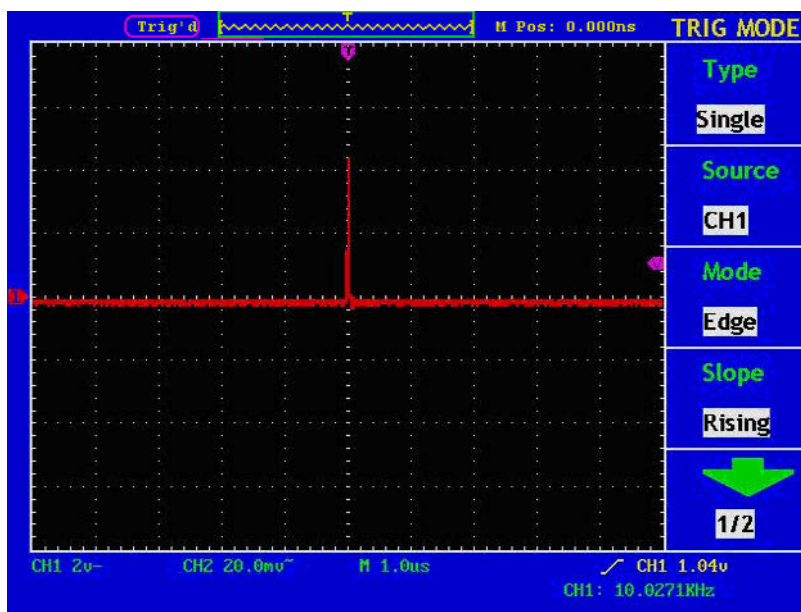

Figure 105. Capture the Single Signal
- 12 If the **Trigger State Indicator** at the top of the screen does not indicate **Ready**, push down the **RUN/STOP** button and start **Acquire**, waiting the emergence of the signal in conformity with the trigger conditions. If a signal reaches to the set trigger level, one sampling will be made and then displayed in the screen. With this function, any random occurrence can be captured easily. Taking the burst burr of larger amplitude for example, set the trigger level to the value just greater than the normal signal level, and then presses the **RUN/STOP** button and waits. When there is a burr occurring, the instrument will trigger automatically and record the wave form generated during the period around the trigger time. With the **HORIZONTAL POSITION** knob in the horizontal control area in the panel rotated, you can change the horizontal position of the trigger position to obtain the negative delay, making an easy observation of the waveform before the burr occurs (see Fig.105).